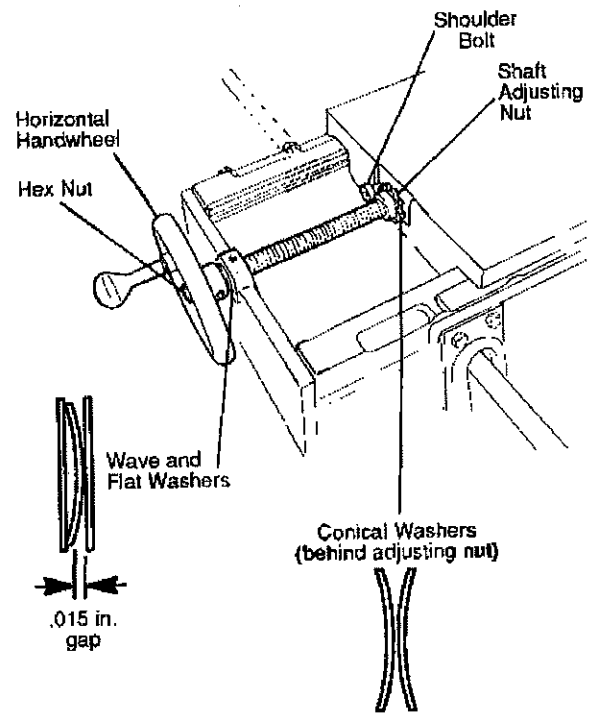

FIG. 35
If there is backlash in the carriage infeed handwheel (FIG. 35), there are two adjusting points to check:
- C. Check for .015 in. (0.4 mm) gap between the wave washer and flat washer. See the insert to FIG. 35. Readjust the hex nut if necessary.